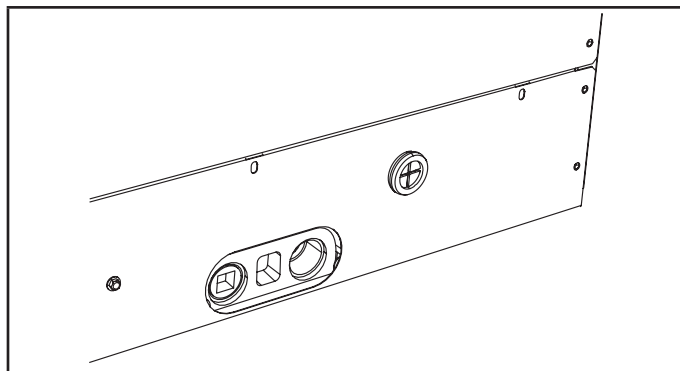

**FIGURE 21**
- 4 - Attach bracket to the piping panel (figure 21).